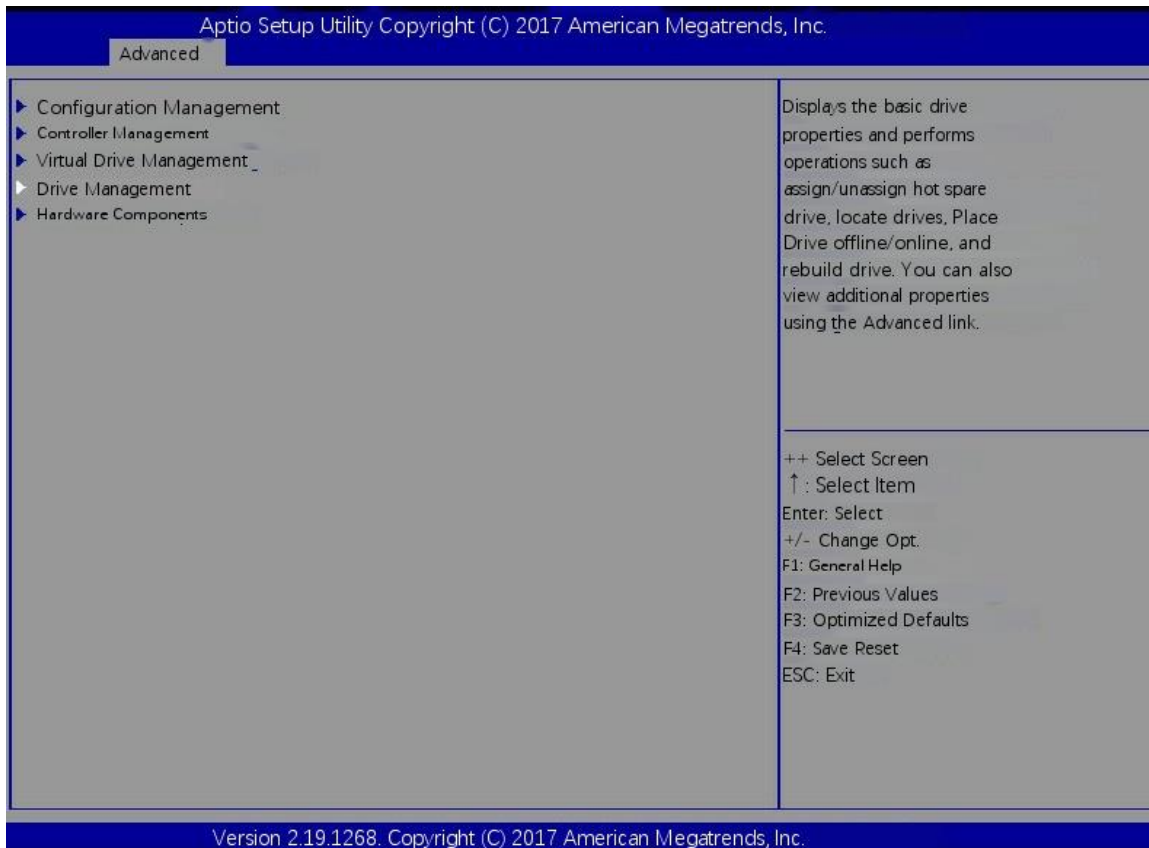

Figure 6-31
- a) As shown in Figure 6-31, select drive management in the raid card configuration interface and press enter.